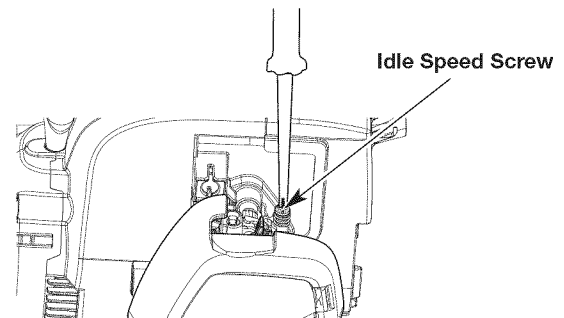

Fig. 21
2. Release the throttle control and let the engine idle. If the engine stops, use a small Phillips screwdriver to turn the idle speed screw clockwise, 1/8 of a turn at a time (as needed) until the engine idles smoothly (Fig. 21).
3. If the engine is idling too quickly, turn the idle speed screw counterclockwise, 1/8 of a turn at a time (as needed) to reduce the idle speed (Fig. 21).